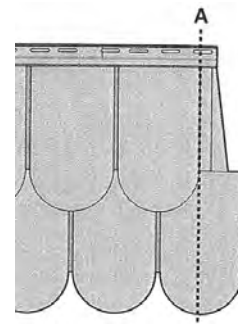

Fig.10
- Cut the first Panel at "A" (See Figure 10).